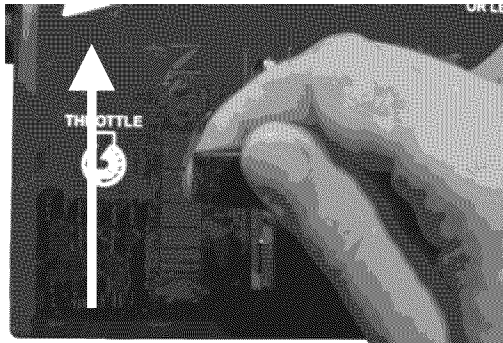

FIGURE 3.13
5. Move Engine Speed Control fully up to **CHOKE** position. See Figure 3.13.